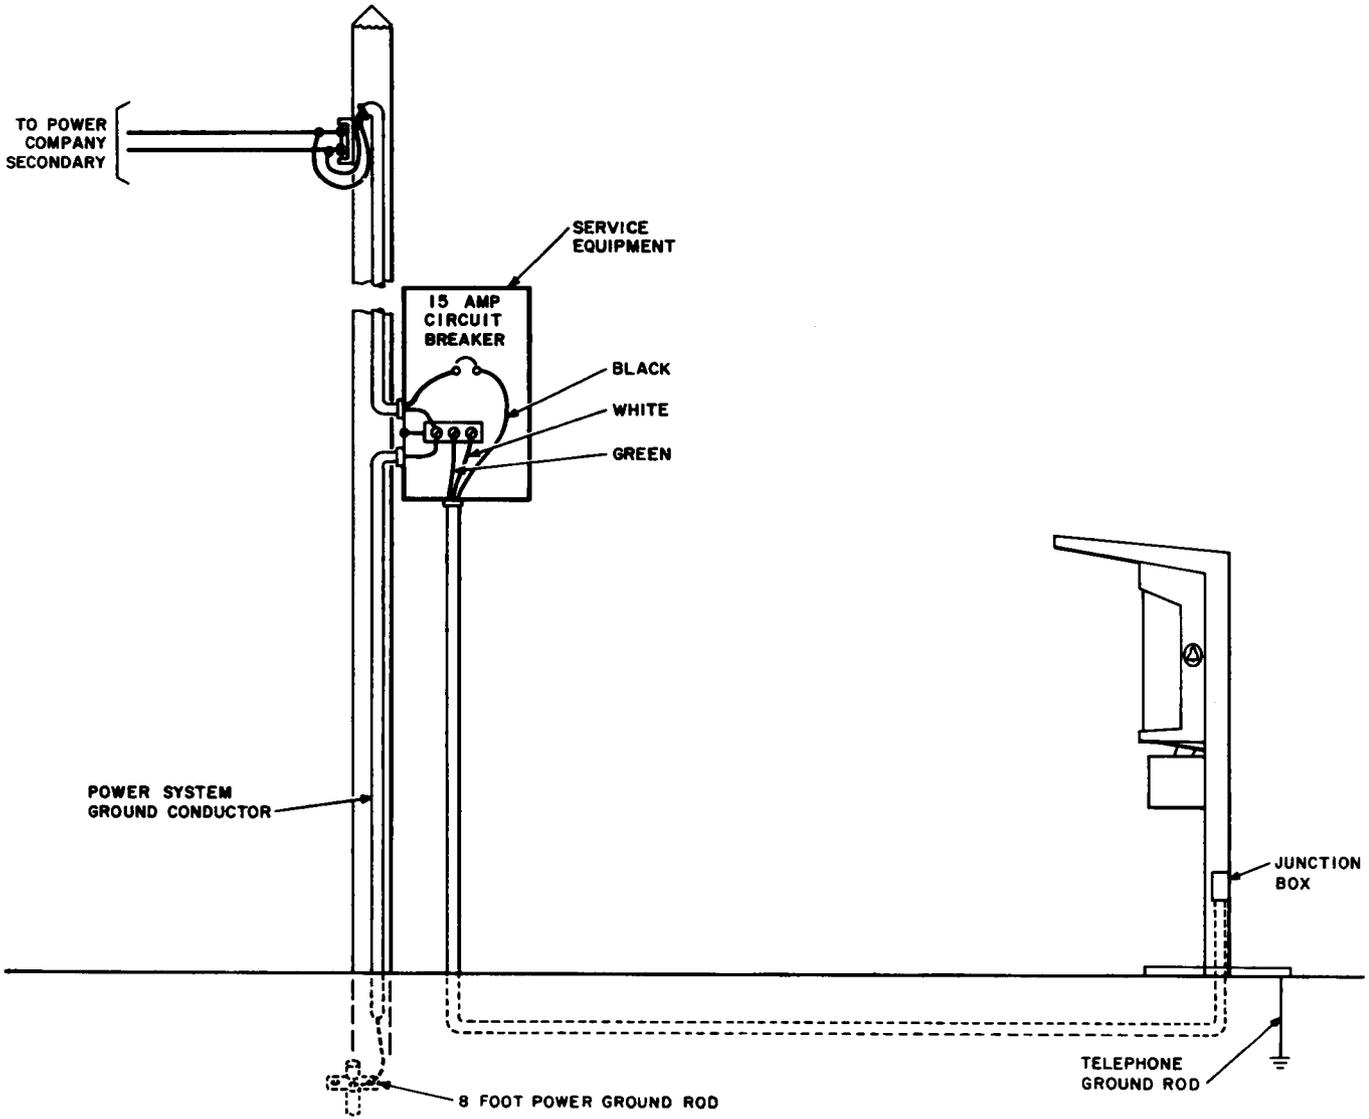

Fig. 10—Branch Circuit Connection for Pole Service
**9.01** Refer to Fig. 10 through 17 for typical electrical connections and ground requirements.